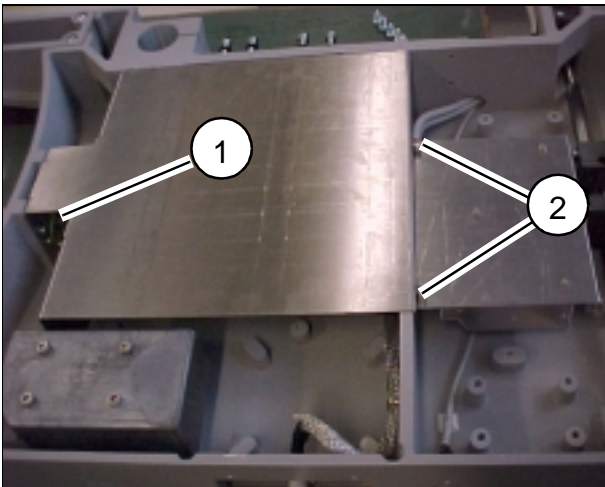

Fig. 5
- Fasten the cover with the existing screws (1/Fig. 5).
- Fasten the cover with the existing screws (2/Fig. 5) of the power supply unit cover.